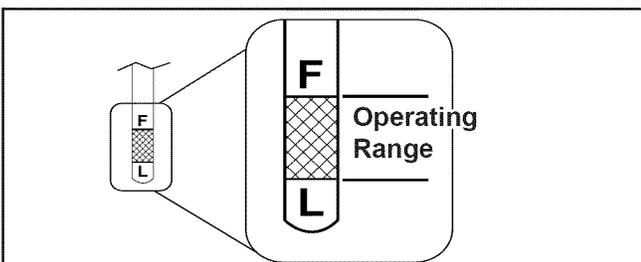

Figure 7. Oil Level Marks on Dipstick (Typical).
- Remove the oil fill cap/dipstick and check oil level. The oil level needs to be within the operating range. See Figure 7. If low, add oil of the proper type, up to the full mark. If oil is above the "F" or FULL mark, drain oil to reach proper level. Reinstall the oil fill cap/dipstick.